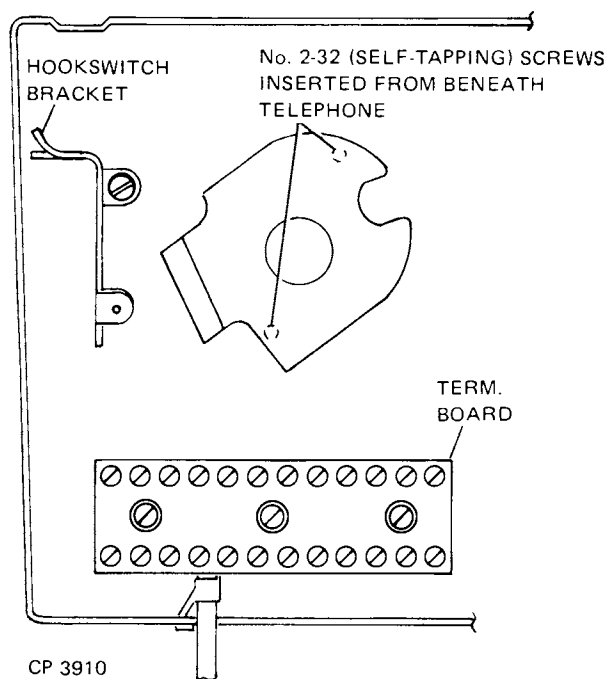

Figure 4. S-C No. 95 Tone Ringer Mounting
2. S-C No. 95 tone ringer (see fig. 4).